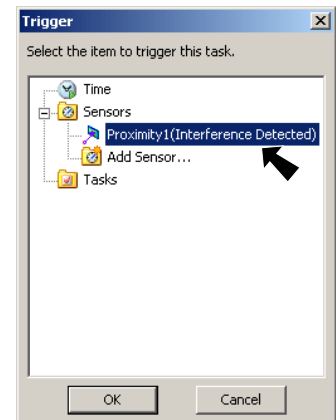

Fig. 20
Step 4. In the Trigger dialog box, expand **Sensor** and select the **zoom**. Click **OK**, **Fig. 20.**